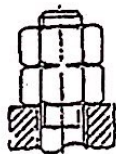

Fig. 4
- 2 – Figure 4 shows a method of locking threaded joints. Make constructional drawings to show another 3 different methods of locking.